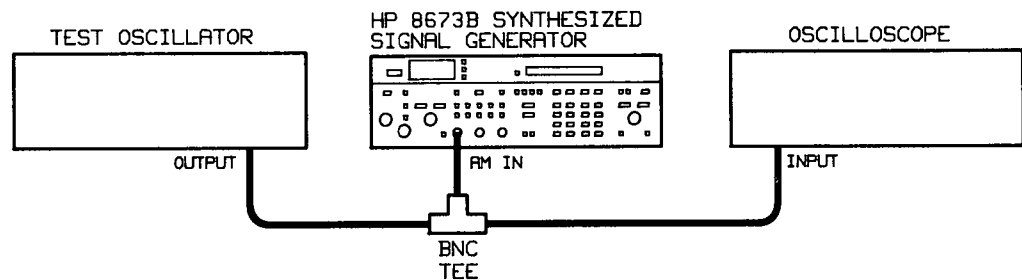

Figure 3-8. AM Functional Check Setup
32. Set the test oscillator to 10 kHz at a minimum output level or 0V. Then, connect the test oscillator and oscilloscope to the Signal Generator as shown in Figure 3-8.